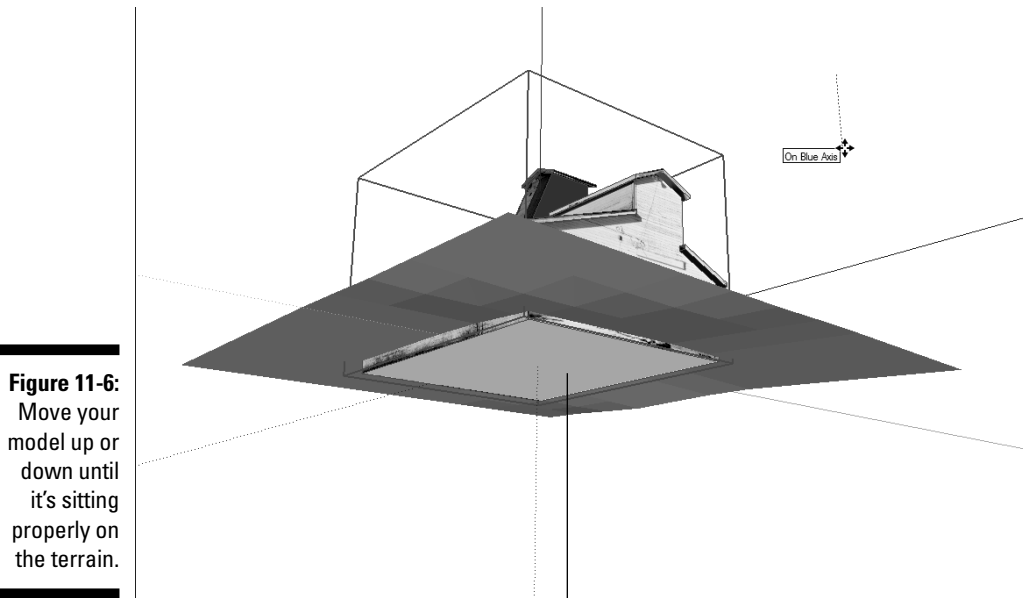

Figure 11-6:
5. Flip to a 3D view of your terrain, and then move your building up or down until it's sitting properly (see Figure 11-6).